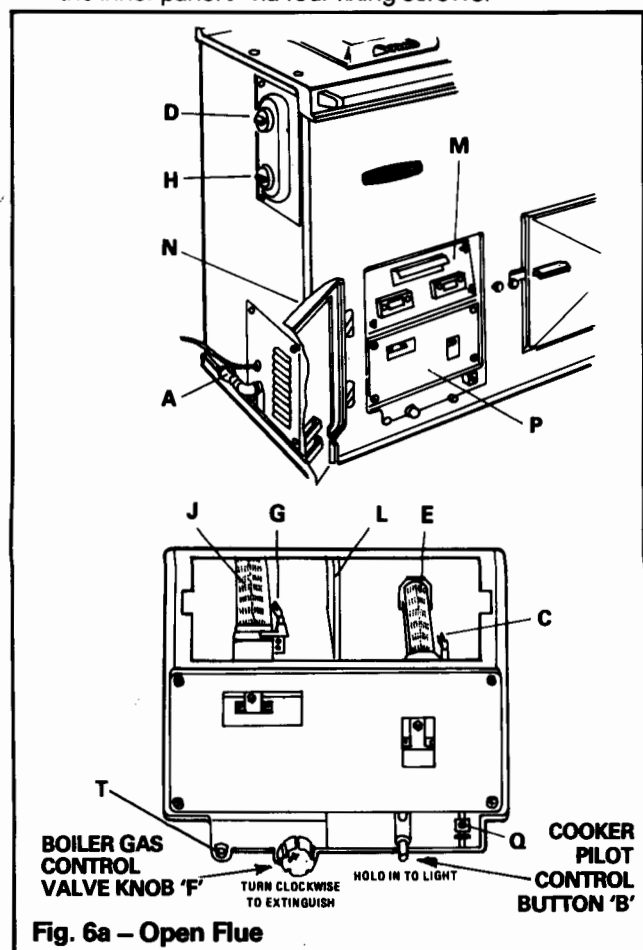
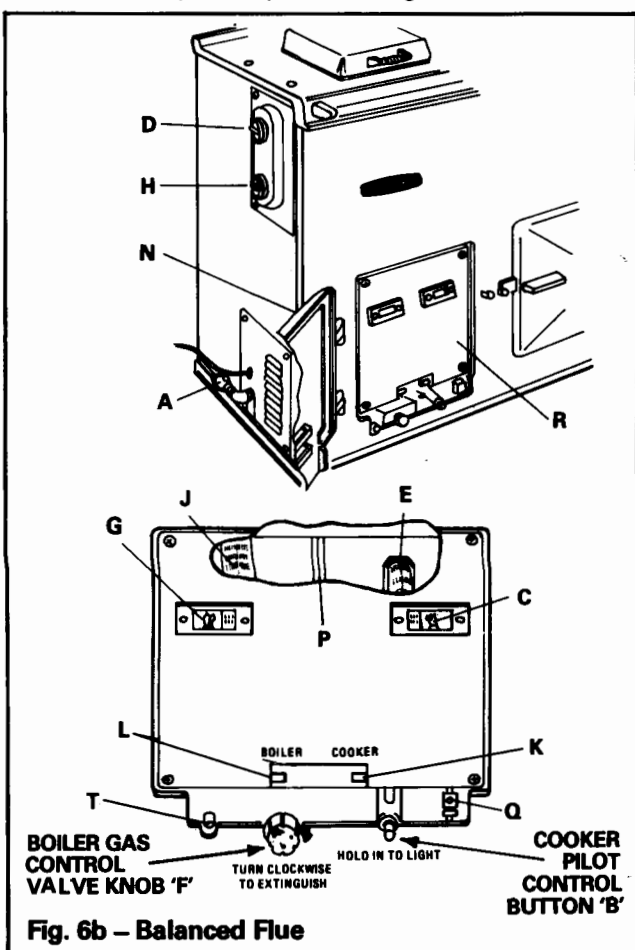

Fig. 6a — Open Flue
Fig. 6b — Balanced Flue
Commissioning and Lighting the Cooker and Boiler — See Fig. 6a or 6b
Open Flue — Fig. 6a
Balanced Flue — Fig. 6b
- c. Replace and secure boiler and cooker main burners and combustion chamber divider plate in the reverse order of dismantling but do not yet fit inner panels **M** & **P** - Open Flue see Fig. 6a or inner door panel **R** - Balanced Flue. See Fig. 6b.
- d. Ensure pilot cock **Q** is **ON** with operating screw slot in line with the pipework. Use screwdriver to turn. See Fig. 6a or 6b.
Cooker Control – See Fig. 6a or 6b
Boiler Control – Fig. 6a or 6b
- k. Refit top section of the inner panel **M** (Open Flue) or inner door panel **R** (Balanced Flue) in reverse order of removal. See Figs. 6a and 6b.